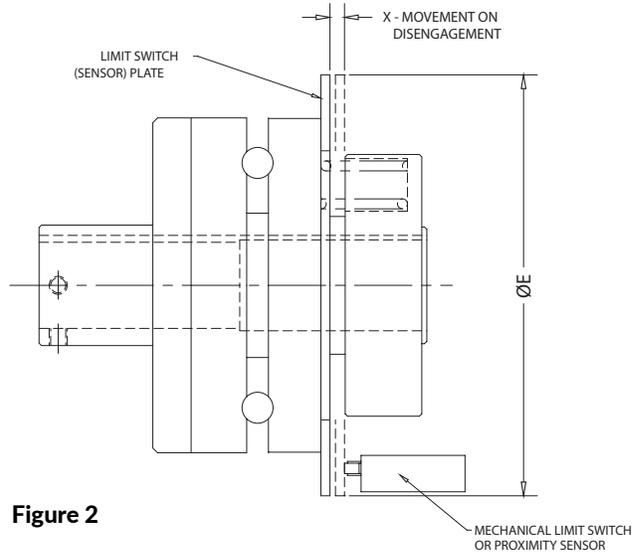

Figure 2
See Figure 2 and Table 3 on page 14 for dimensions and movement on disengagement
① See Figure 2 and Table 3 on page 14 for dimensions and movement on disengagement.
The Autogard 400 Series is designed to run freely upon disengagement. However, it is still critical to shut down the drive immediately when disengagement occurs to avoid premature wear of the torque limiter. The recommended method of shutting down the drive is through the use of a customer supplied mechanical limit switch or proximity sensor shown in **Figure 2** using the dimensions in **Table 3**. However, it is preferable to use the slide plate movement on disengagement to operate a limit switch, which switches off the main drive and/or sounds an alarm.
Figure 2 and **Table 3** give details of the limit switch plate and the movement on disengagement.